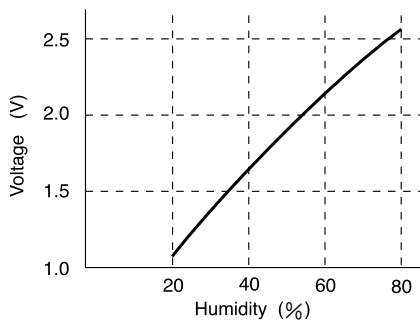

Fig. 5-2
- From the output (② pin) of humidity sensor, the 5V pulse3 of different width is output according to detected humidity. Smooth output pulse is carried out by C301 and it changes into the characteristic of voltage-humidity as shown in Fig.5-2. The micro computer detects and controls humidity by reading this voltage directly.